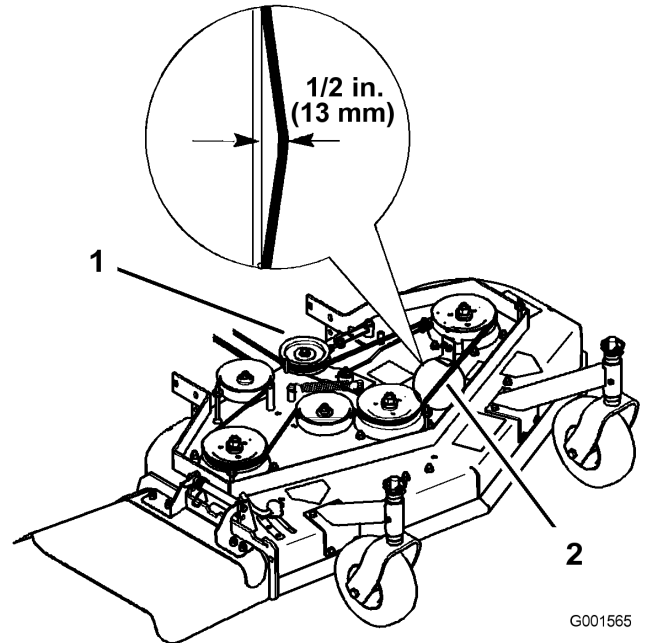

Figure 38
- Remove the idler pulley and the worn belt (Figure 38).
Note: The proper mower belt tension is 10-15 lbf. (44-67 N) with the belt deflected 1/2 inch (13 mm) halfway between the pulleys (Figure 38).